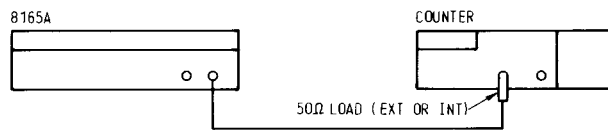

Figure 4-12. Test Setup for Sweep Option 002
1. Connect the equipment as shown in Figure 4-12.